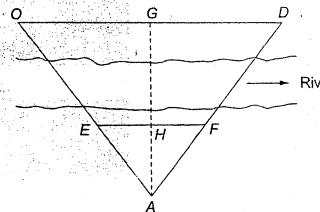

Fig. 3.15 Calculation of length of inaccessible line
In Fig. 3.15, let O and D be the two inaccessible points. Due to inaccessibility of the points O and D , length OD cannot be measured directly.
- Locate a point A as shown in Fig. 3.15. Determine the distance OA and DA .